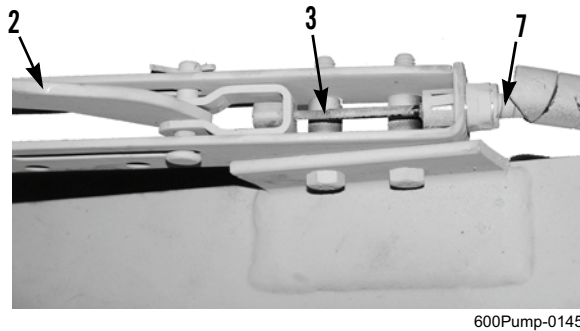

Figure 8. Hand Brake Lever Mounting.
5. Install hand brake cable (Figure 8, Item 3) and cable sheath (Figure 8, Item 7) on hand brake lever (Figure 8, Item 2). Adjust hand brake. Refer to *Hand Brake Lever Installation and Adjustment* in this work package.